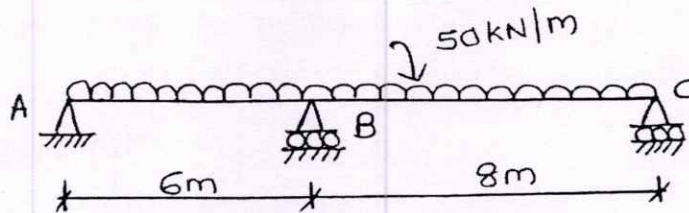

Fig. 1
- 1 a) Analyse the continuous beam ABC shown in Fig. 1 using three moment equation. (15)